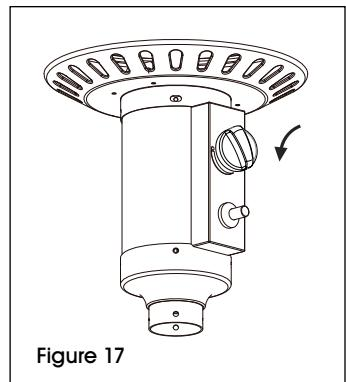

Figure 17
4. Turn the control knob to low (minimum) and leave it there for five minutes or more before turning the knob to desired temperature setting. (See Figure 17)